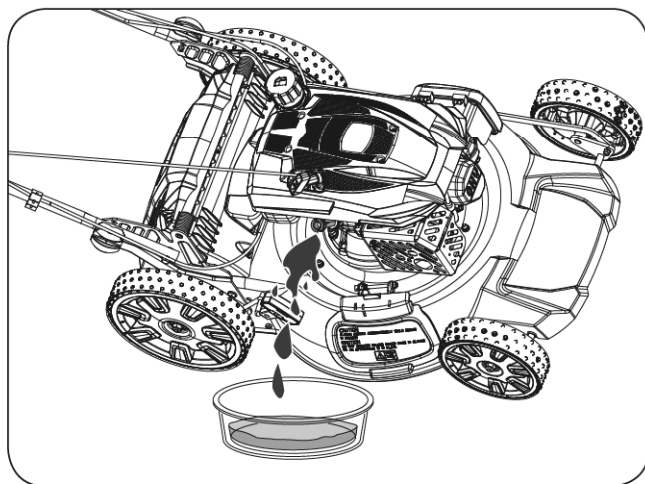

Figure 18
4. Tip the machine onto its side (so that the air filter is up) to drain the used oil from the oil-fill tube. (See **Figure 18**)